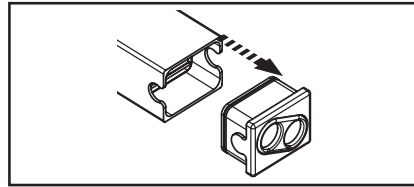

Figure 2: Sealing cap on the container
2. Open the container by removing the sealing cap (Figure 2).